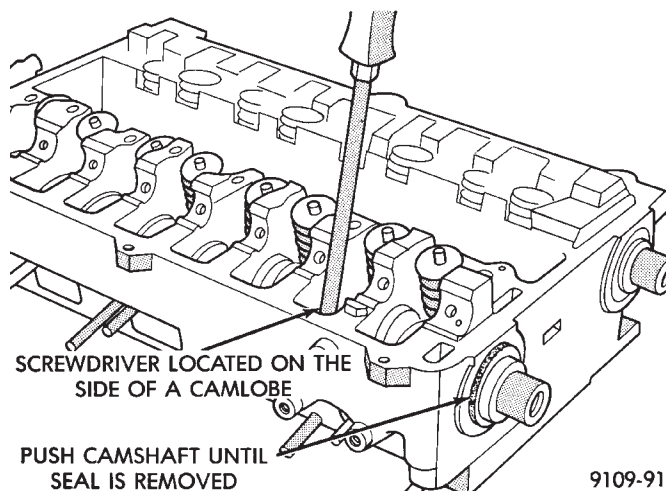

Fig. 3 Removing Camshaft Oil Seal
(4) Before camshaft can be removed from cylinder head the cam seal must be removed first. Be careful not to damage seal surface of the camshaft.
(5) Using a screwdriver place it against the side of the cam lobe push the cam out of the head. The cam seal will be pushed out by the cam (Fig. 3).